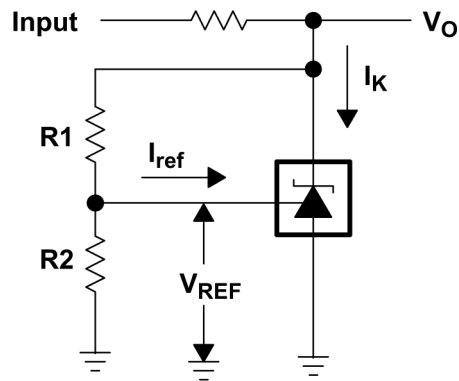

图 6-2. Test Circuit for  $v_{KA} > V_{REF}$ ,  $V_O = V_{KA} = V_{REF} \times (1 + R1/R2) + I_{ref} \times R1$
(3) The dynamic impedance is defined as  $|z_{ka}| = \frac{\Delta V_{KA}}{\Delta I_K}$ . When the device is operating with two external resistors (see 图 6-2), the total
(3) Full temperature ranges are - 40°C to 125°C for TLV431Q, - 40°C to 85°C for TLV431I, and 0°C to 70°C for TLV431C.
(4) dynamic impedance is defined as  $|z_{ka}| = \frac{\Delta V_{K_A}}{\Delta I_K}$ . When the device is operating with two external resistors (see 图 6-2), the total